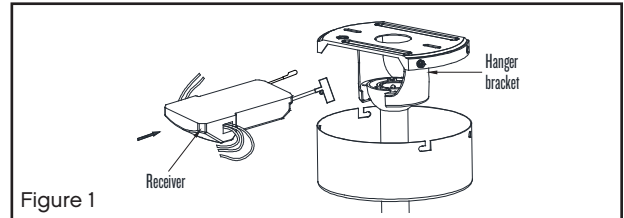

Figure 1
- 1 Remove hanger ball from downrod by loosening set screw in the side of the hanger ball. Slide hanger ball down and remove cross pin. (Fig. 1)
1 Insert the receiver into the ceiling mounting bracket with the flat side of the receiver facing the ceiling. (Fig. 1) For best performance, make sure the black antenna and WiFi antenna, on the end of the receiver, remains extended and not tangled with any of the electrical wires. Place the WiFi antenna on the outside of the canopy and stick/fix it on the ceiling.
- 1 Select a desired location. Use the wall plate to mark the location of the mounting holes. Plastic wall anchors or mounting screws are needed for this application. (Fig. 1)
Remove the panel from the transmitter and then install one 2032 battery (included). You need to use a coin to open or close the battery cover. To prevent damage to transmitter, remove the battery if not use for long periods of time (Fig. 1)